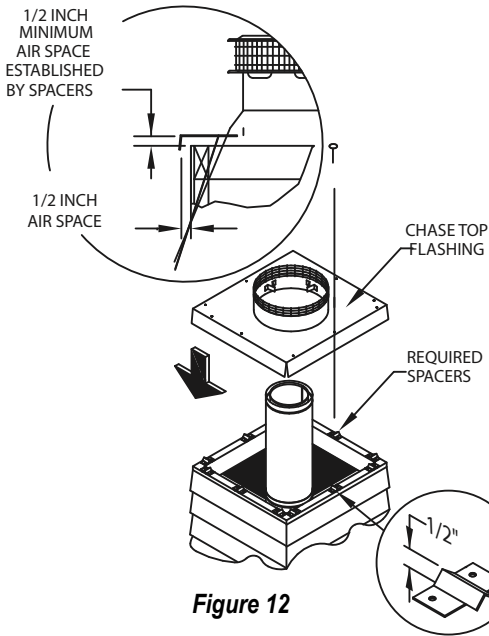
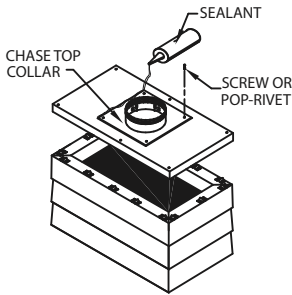
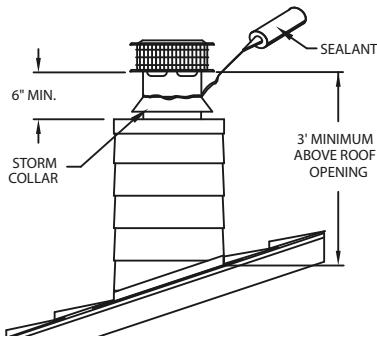
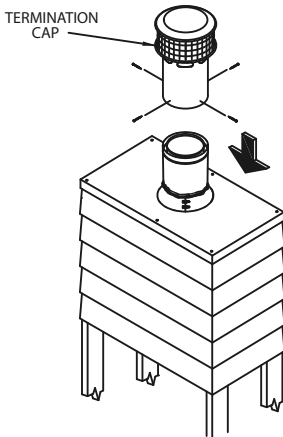

Figure 12
Figure 14
Figure 15
Figure 16
12. Attach Flashing: For chase enclosures, use a Chase Top Flashing. The Chase Top Flashing allows for a 1-1/2" clearance maintained from the chimney and provides required ventilation air. Install the Chase Top Flashing at the top of the chase with a 1/2" minimum air clearance off the top of the chase construction (**Fig. 12, 13**). Use spacing clips provided to establish 1/2" air clearance. If the Chase Top Flashing does not fit the dimensions of the chase, use a Chase Top Collar Section and extend the base of the flashing as needed for the chase dimensions. Ensure the minimum 1/2" spacing and perimeter ventilation requirements are met as show in **Figure 12**. Secure the Chase Top Collar Section to the field-fabricated chase top with sheet metal screws or rivets (**Fig. 14**). Seal Chase Top Collar Section to chase top with non-hardening waterproof sealant to ensure a weather tight connection. Additional screening as needed for field-fabricated chase covers is allowed. Additional 1/2" minimum spacers can be field-fabricated as needed out of 24 GA sheet metal or other suitable non-combustible material. Additional non-combustible structural supports can be field-fabricated to help support the chase top flashing if needed, provided the air ventilation requirements are maintained. Secure the Chase Top Flashing to the chase with at least (3) screws or nails per side. When installed, the bottom of the Chimney Cap must be at least 6" above the Chase Top Flashing (**Fig. 15**).
13. Finish Top: Apply a non-hardening waterproof sealant around the chimney at the point where the Storm Collar will meet the chimney just above the Flashing (**Fig. 15**). Slide the Storm Collar down over the chimney to the top of the Flashing. The Storm Collar must be
installed 1" off the Chase Top Flashing to provide proper ventilation (**Fig. 15**). Tighten the bolts of the Storm Collar and seal the Storm Collar against the Chimney with sealant. Be sure Chimney and Offsets are properly supported. Attach the Chimney Cap onto the top of the chimney by setting the female end of the Cap onto the male end of the last Chimney Section. Secure the Cap by using (4) sheet metal screws provided (**Fig. 16**). Do not push down from the top portion of the cap as this may damage the cap. Push from the lower section of the Cap if needed. The Chimney Cap can be removed for chimney cleaning as described in the Chimney Maintenance section of the instructions.